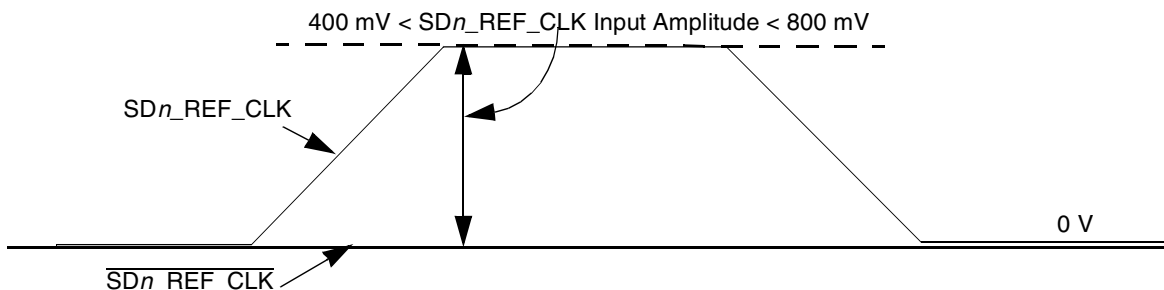

Figure 58. Single-Ended Reference Clock Input DC Requirements
- The $\overline{SDn_REF_CLK}$ input average voltage must be between 200 mV and 400 mV. Figure 58 shows the SerDes reference clock input requirement for single-ended signaling mode.